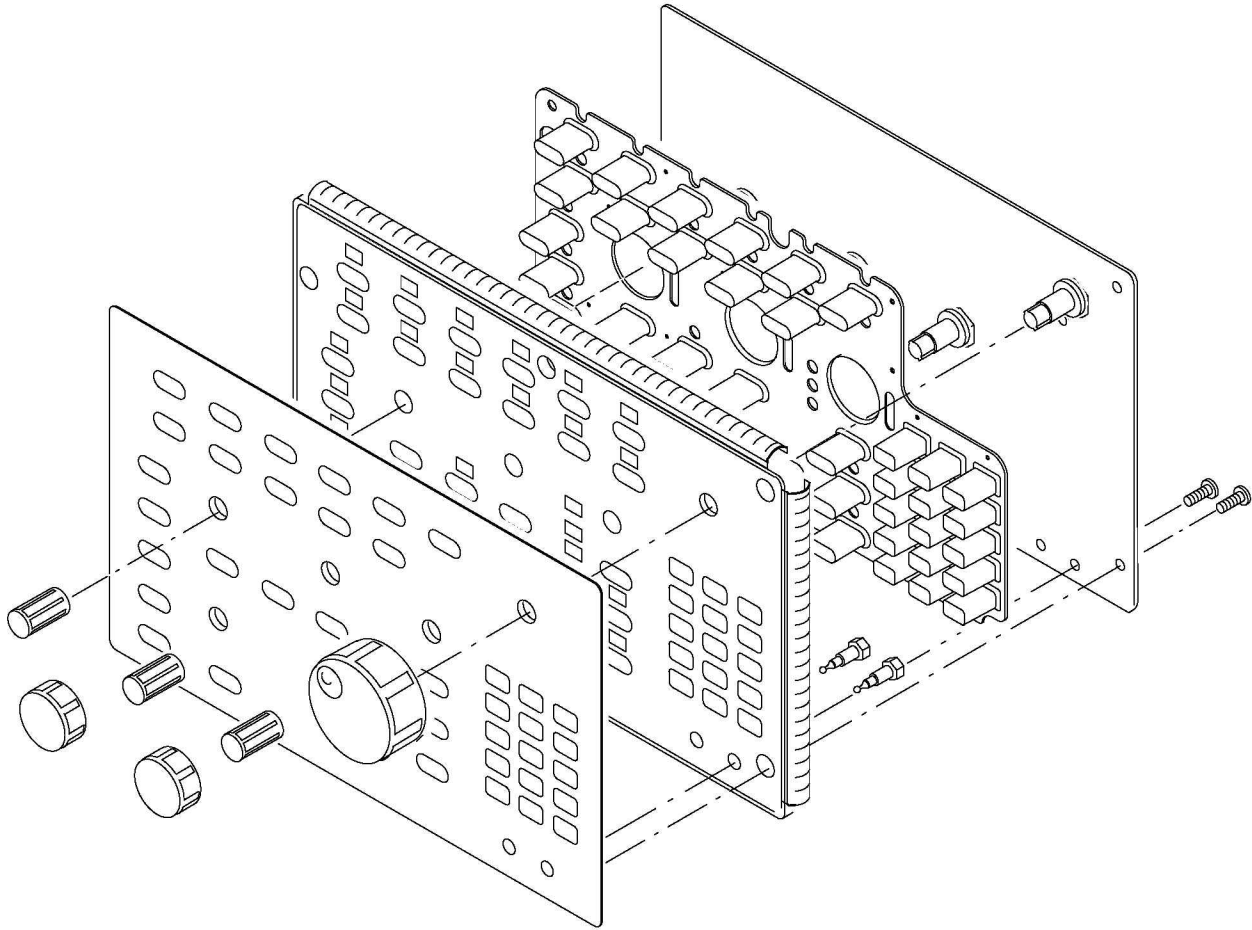

Figure 6-10: Disassembly of Front-Panel Assembly
- c. Now hand disassemble the front-panel assembly components using Figure 6-10 as a guide. Reverse procedure to reassemble, using the same Figure 6-10 as a guide.
5. *Reinstallation:* If the front-panel assembly was further disassembled in step 4, then reverse substeps 4a–4c to reassemble, using Figure 6-10 as a guide. Then do step 3, reversing the procedure outlined in each substep. Last, reinstall the trim ring and, if desired, the front cover, referring to the procedure *Front Cover, Trim Ring, Menu Buttons, and Attenuator Panel* (page 6-23).